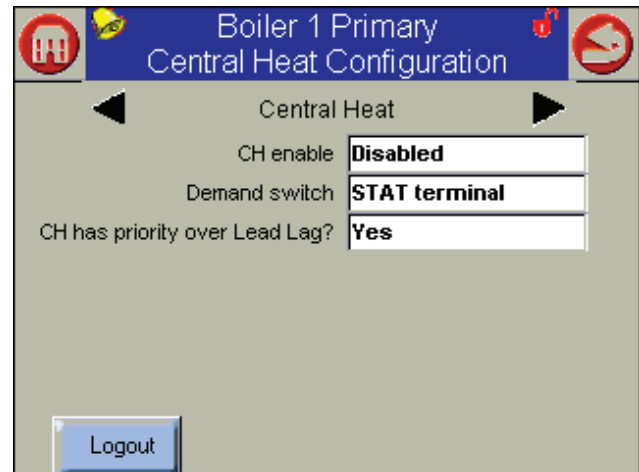

Fig. 99 - Central Heat Configuration
4. Fig. 99 shows the setup screen.